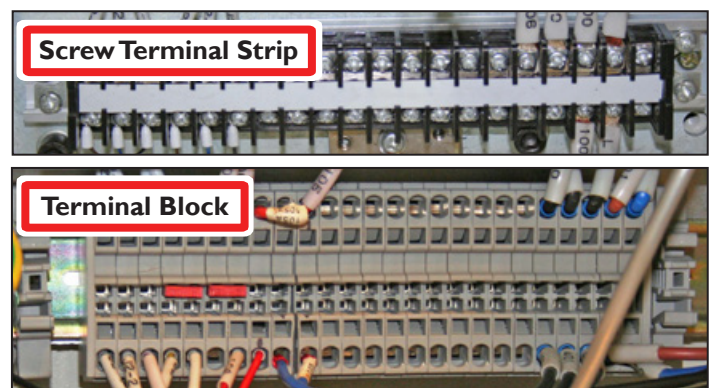

Figure 17
1. Older machines are equipped with a Screw Terminal Strip, while newer machines have a Terminal Block. Identify the connection type in electrical cabinet specific to your machine as shown in **Figure 17**.